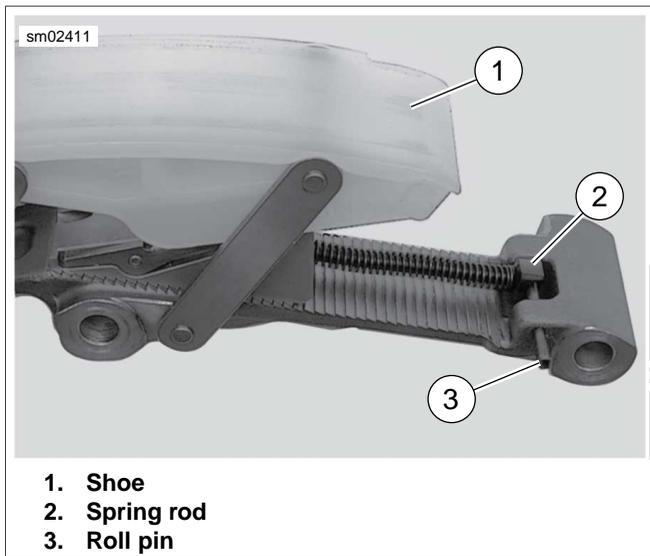

Figure 6-15. Spring Rod Location
- See Figure 6-15. Locate end of spring rod (2) on roll pin (3).